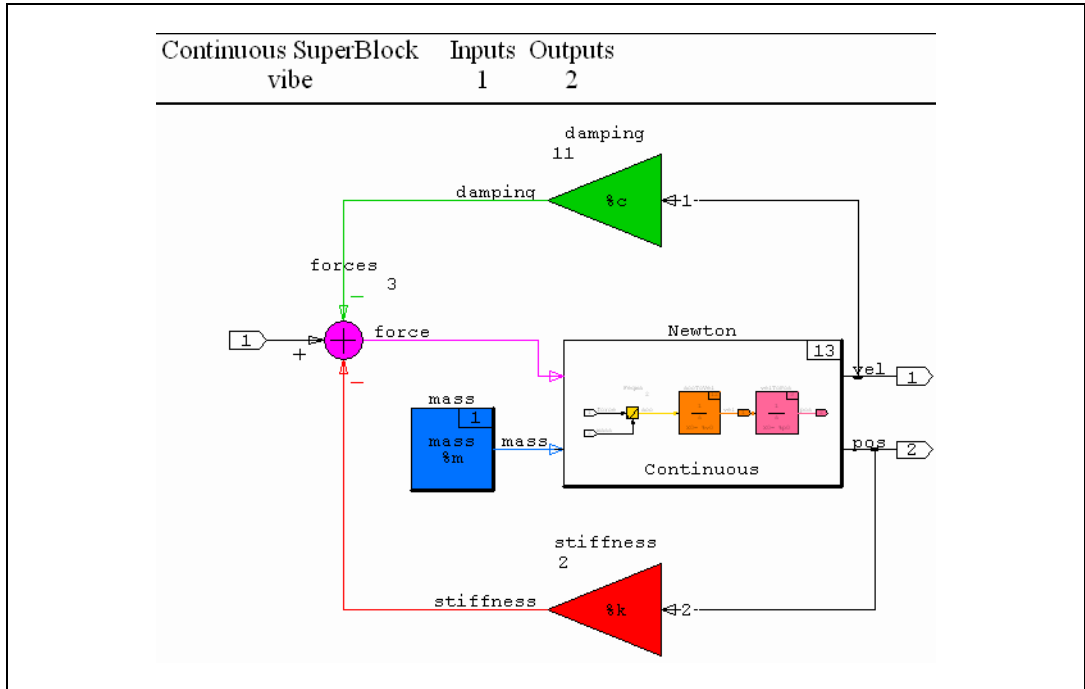

Figure 4-30. Block Diagram for Damped Spring
To complete a block diagram representation of a damped spring, a few more blocks are needed. A solution is shown in Figure 4-30. Two Gain blocks have been added. One produces the damping force by multiplying velocity by the damping constant. Position and stiffness are used by the other to determine the spring force. These forces are subtracted from the *vibe* input force by a Summer block that passes the resultant force to the Newton SuperBlock block.
3. Position the new blocks as shown in Figure 4-30.
6. Make block diagram connections as shown in Figure 4-30. For additional detail, refer to the Connecting Blocks and Connecting SuperBlock Inputs and Outputs sections.